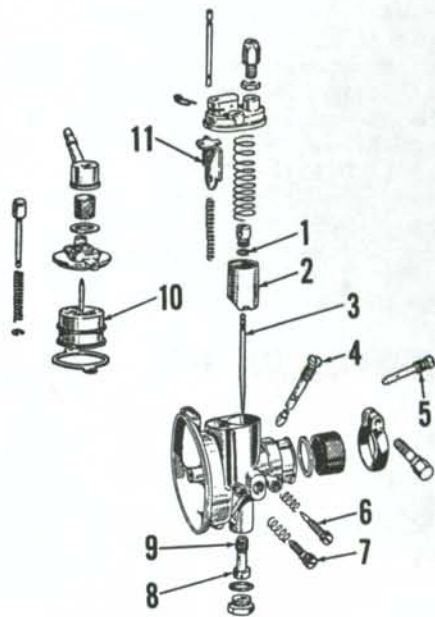

Fig. BE1-1—Exploded view of Del'Orto carburetor. Idle mixture is adjusted at needle (6).
CARBURETOR. Del'Orto ME 18 BS carburetor is shown in Fig. BE1-1. Idle speed is adjusted at screw (7). Idle mixture needle (6) initial setting is 1 turn open. Turning the needle counter-clockwise leans the mixture. Clip (1) should be in center (2nd notch of needle (3). Main jet (8) standard size is 76.